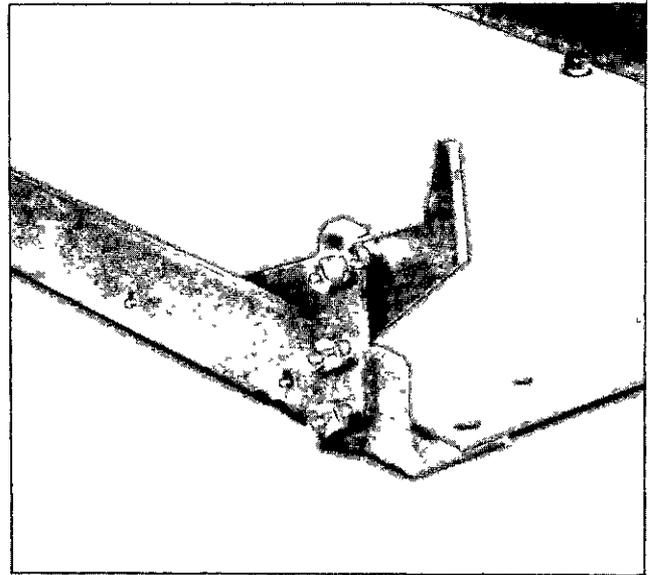

Figure 5. Mechanical Latch
**Mechanical Latch** (Refer to Figure 5)